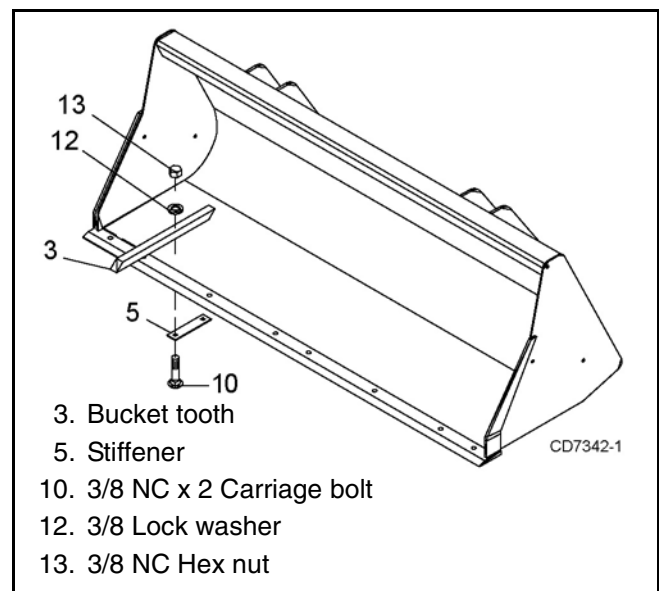

Figure 43. Bolt on Bucket Tooth (Optional)
Holes for teeth must be drilled in bottom of bucket. Position point of tooth as shown in Figure 43, 5" from leading edge of cutting edge. Equally space teeth along bucket before marking holes. Drill 9/16" holes where marked. Install tooth (3), hardware (10, 12, 13), and stiffener (5) for each tooth.